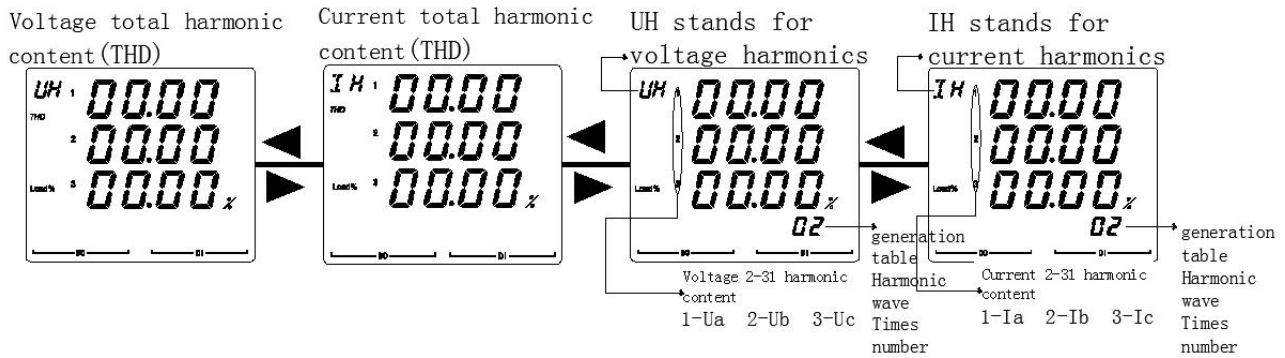

Figure 20.
5.2.5 View the harmonic parameters of the DEMP-AC3-DXX-E meter as shown in Figure 20.